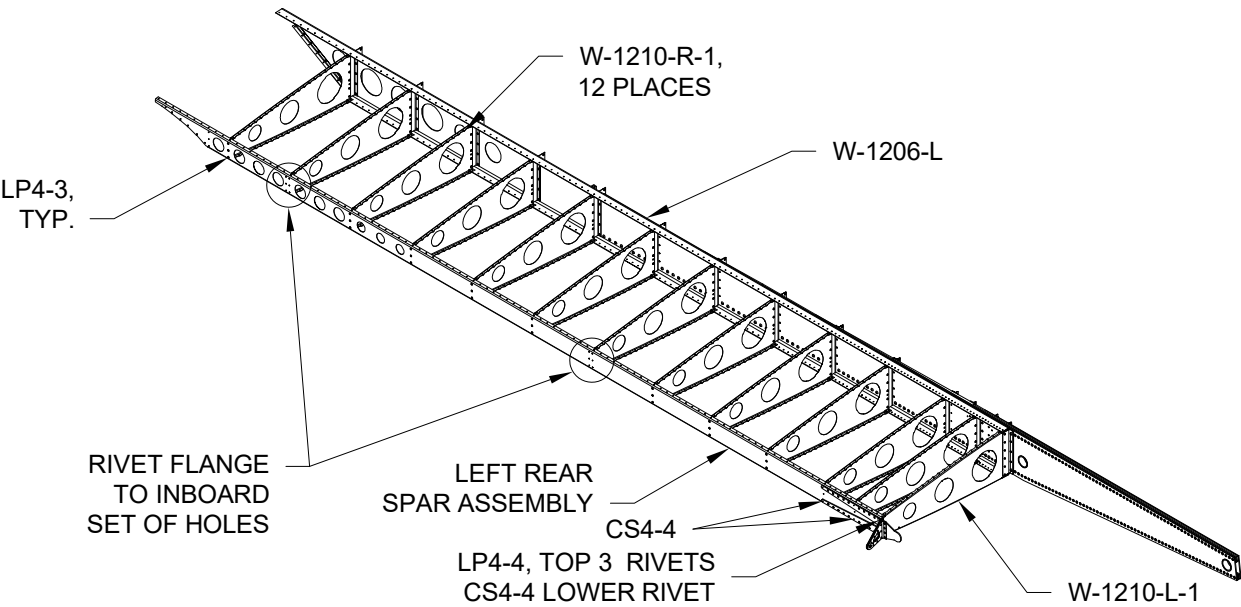

FIGURE 4: ATTACHING THE REAR SPAR
Step 9: Cleco then rivet the Left Rear Spar Assembly to the aft flanges of the W-1210-1 Main Ribs as shown in Figure 4.